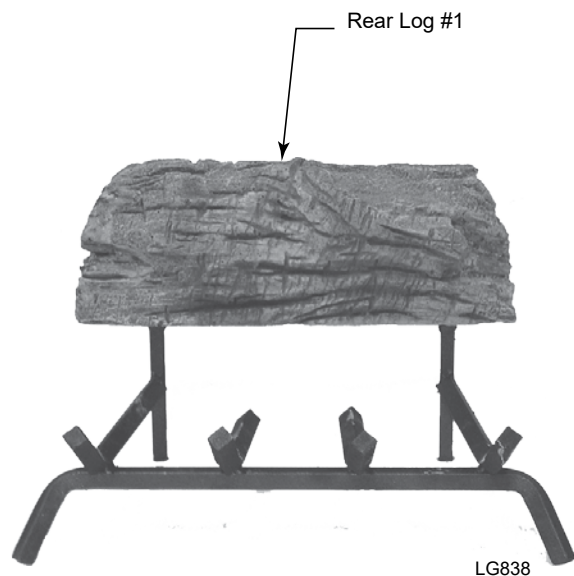

Figure 18 -
2. Center rear log #1 on grate bars and flush with rear of the grate. *Figure 18.*